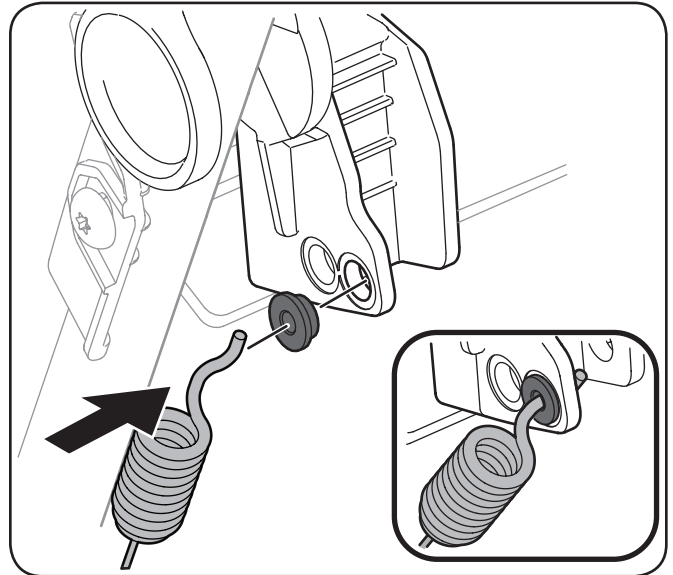

Figure 28
4. Replace bushing in the lower hole and reattach the cable through the bushing and lower hole in the handle. See Figure 28.